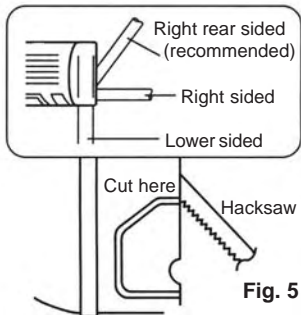

Fig. 5
1. For right side and lower side piping, cut the indoor unit base(s) with a hacksaw and deburr the cut end with a file. (See Fig. 5)